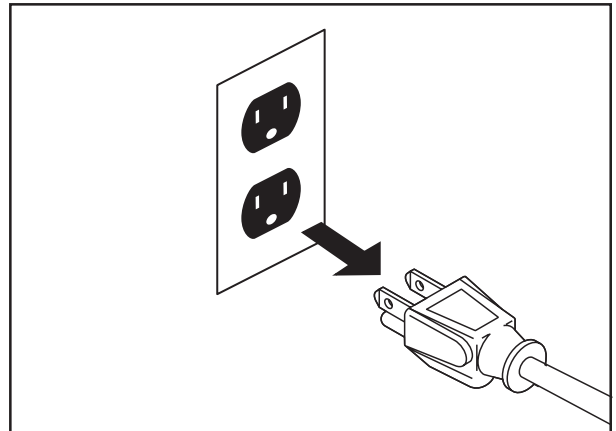

Figure 10: Extended Shut Down
2. Unplug electrical power supply. Power indicator light will go off (Figure 10).